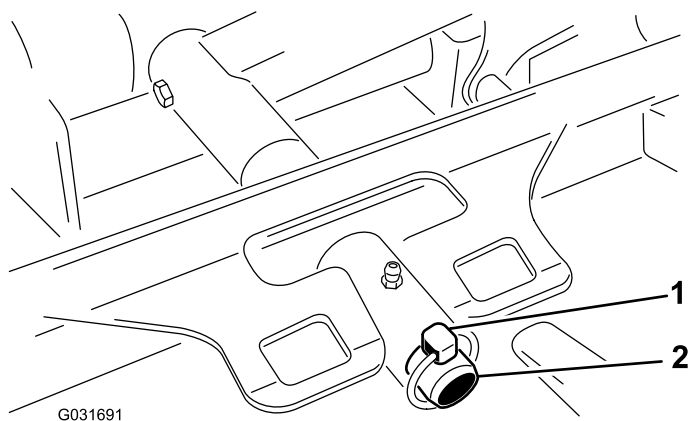

Figure 72
3. Remove the lynch pin securing the deck-carrier frame to the lift-arm pivot pin (Figure 72).
3. Slide the deck-carrier frame onto the lift-arm pivot pin and secure it with the lynch pin (Figure 72).